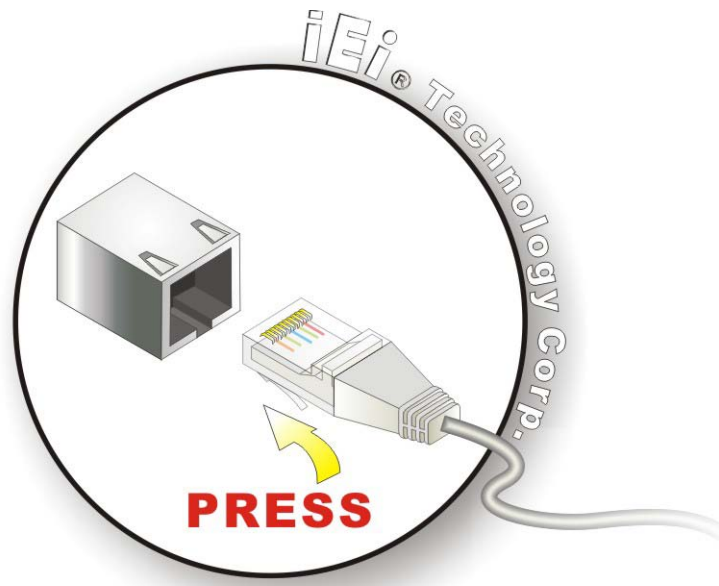

Figure 3-23: LAN Connection
Step 2: Align the connectors. Align the RJ-45 connector on the LAN cable with the RJ-45 connector on the uIBX-210-CV-N2600. See Figure 3-23.